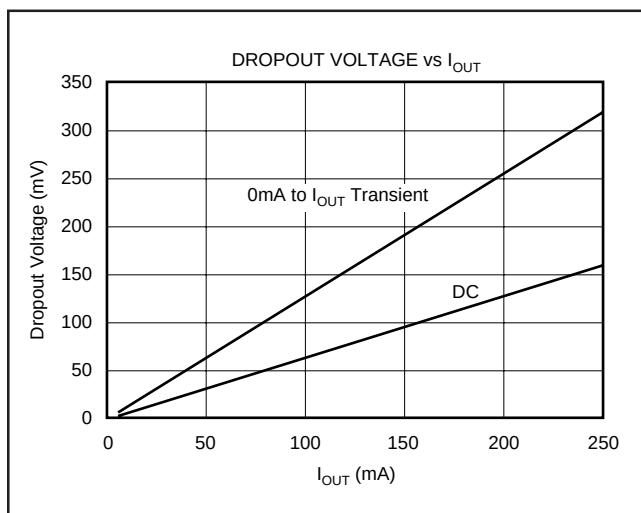

FIGURE 6. Transient and DC Dropout.
The REG102 uses an N-channel DMOS as the pass element. When $(V_{IN} - V_{OUT})$ is less than the drop-out voltage (V_{DROP}), the DMOS pass device behaves like a resistor; therefore, for low values of $(V_{IN} - V_{OUT})$, the regulator input-to-output resistance is the $R_{DS(ON)}$ of the DMOS pass element (typically 600mΩ). For static (DC) loads, the REG102 typically maintains regulation down to a $(V_{IN} - V_{OUT})$ voltage drop of 150mV at full rated output current. In Figure 6, the bottom line (DC dropout) shows the minimum V_{IN} to V_{OUT} voltage drop required to prevent dropout under DC load conditions.
For large step changes in load current, the REG102 requires a larger voltage drop across it to avoid degraded transient response. The boundary of this transient drop-out region is shown as the top line in Figure 6 and values of V_{IN} to V_{OUT} voltage drop above this line insure normal transient response.